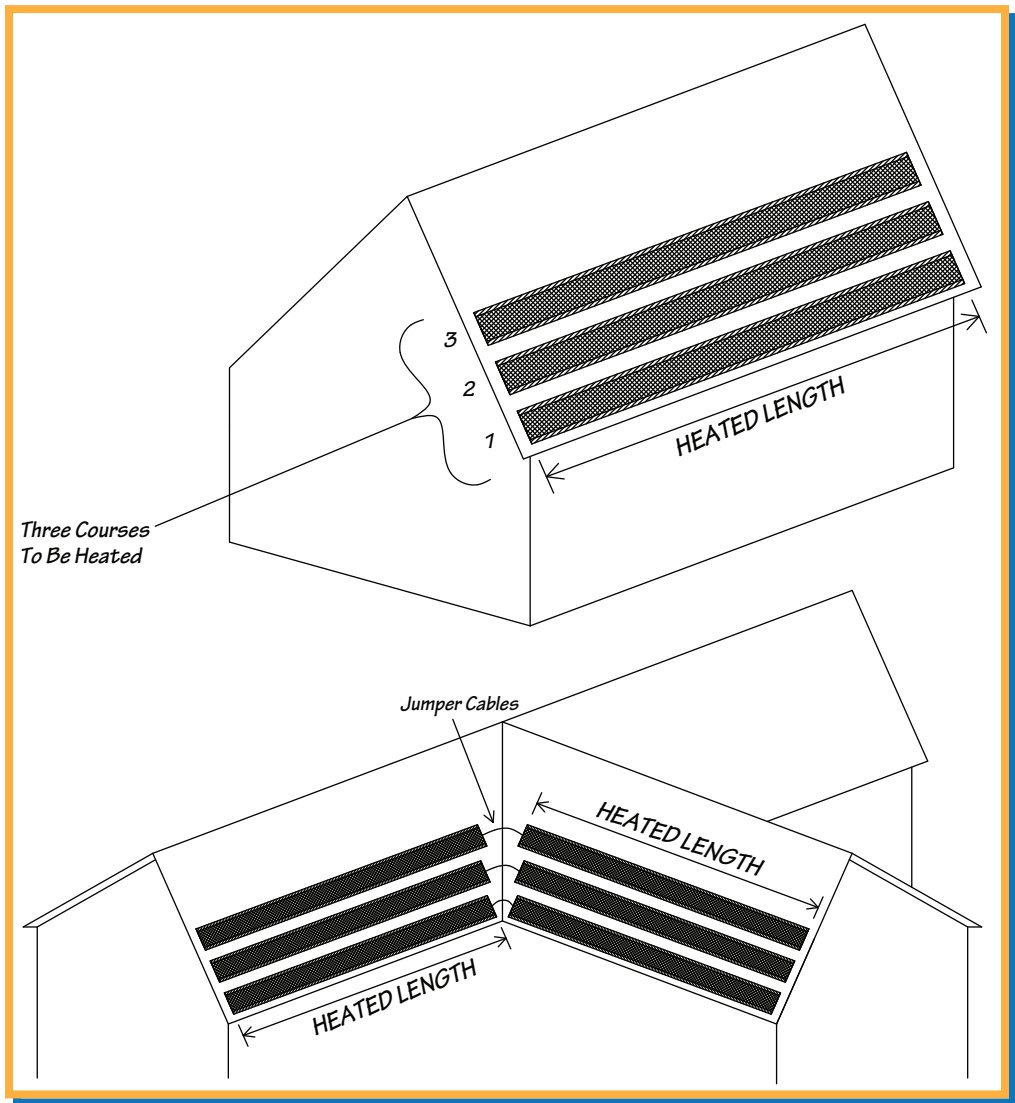

Figure 7. Measuring the Length of Runs
3. Measure the important dimensions of your roof (see Figure 7) and sketch your plan layout.